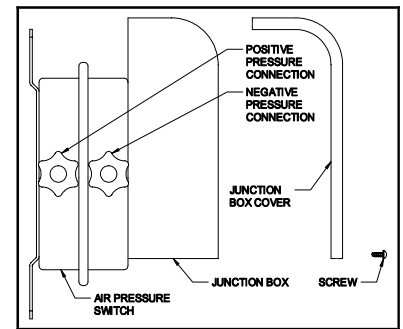

Figure 4
5. Loosen the compression nut on the positive pressure connection of the air pressure switch. Insert the straight end of the tube into the nut and tighten the nut by hand until the tube is held securely. Do not remove the pressure nut on the negative pressure connection. (See Figure 4).
6. Remove the junction box cover on the air pressure switch. (See Figure 4).